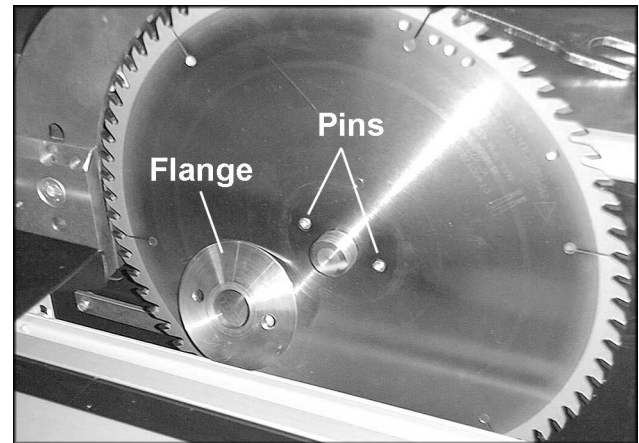

FIGURE 10a
7. Ensure new blade and flanges are clean, then mount new blade and flange, and tighten arbor nut securely. The blade and flange must slip over the two pins (Fig. 10a). This provides positive drive to the blade, and prevents the hex nut from loosening when the arbor rotation is halted by the motor brake.